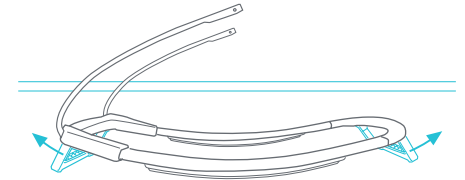

Fig. 5a
**NOTE:** use the 2 feet to assist in assembling the Bouncer/Rocker frame sections (Fig. 5a).